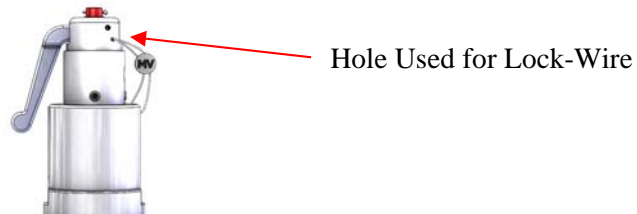

Figure 34: Lift Lever Orientation and Lock Wire
13. Place the lift lever cap subassembly over the adjustment screw and lift lever lock nut with the orientation shown in Figure 34.
18. Attach the seal wire through the small unused hole of the lift lever cap as shown in Figure 34.